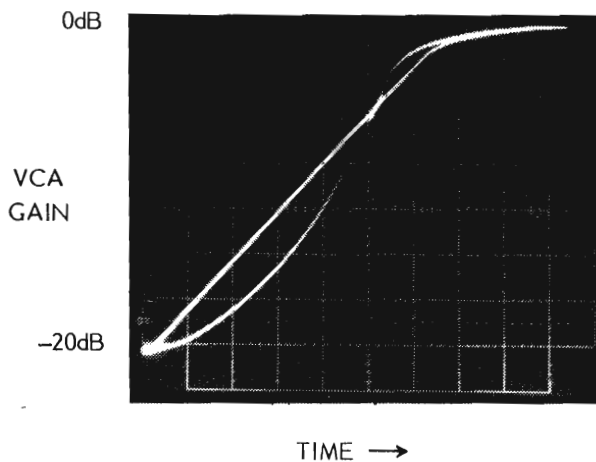

Fig. C-2: LINear VERSUS EXponential RELEASE SHAPES
- The RELEASE SHAPE switch further modifies the action of the RELEASE TIME control. It determines if the recovery rate (in dB/second) of the "compression" function is constant (LINear mode), or if it starts out slowly, and then speeds up as it goes along (EXponential mode), as in Fig. C-2. (The fast limiting recovery is unaffected by the RELEASE SHAPE switch.)